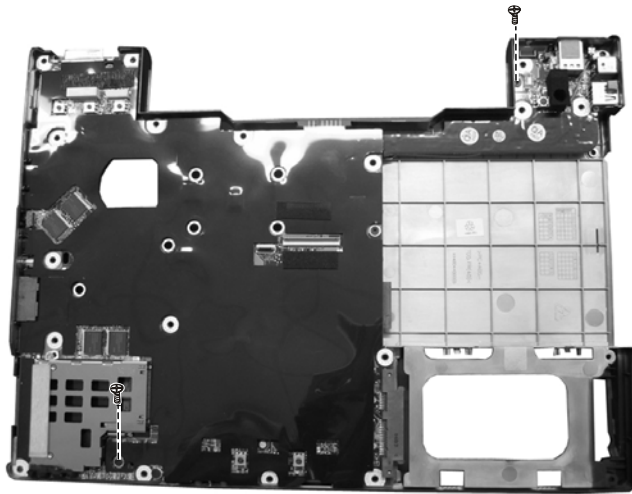

Figure 2-23 Remove the two screws
4. Remove the two screws and free the top cover. (Figure 2-23)